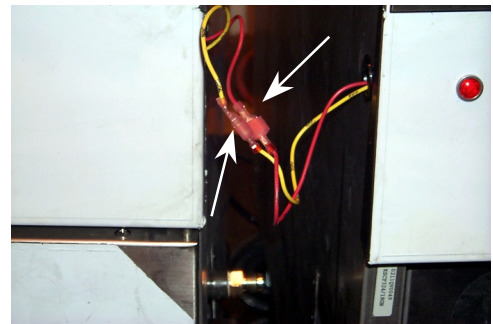

Figure 3. Yellow and red wires connect oil return switches.
5. Connect the red and yellow wires exiting the cabinets to be joined (Fig. 3). The non-filtration cabinet oil-return switches will not work if these wires are not connected.